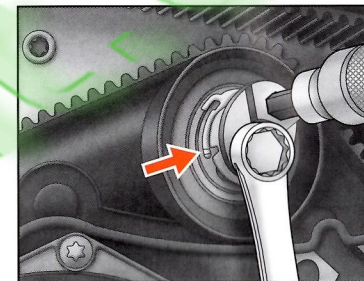

Fig.65
- (7) Release the tensioner until the indicator lug and the notch are aligned, then tighten the tensioner bolt. (Fig.65)